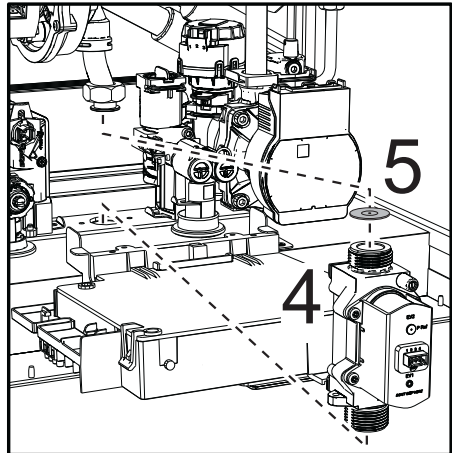

fig. 45
- Remove the gas valve "4" and the gas diaphragm "5" (fig. 45).